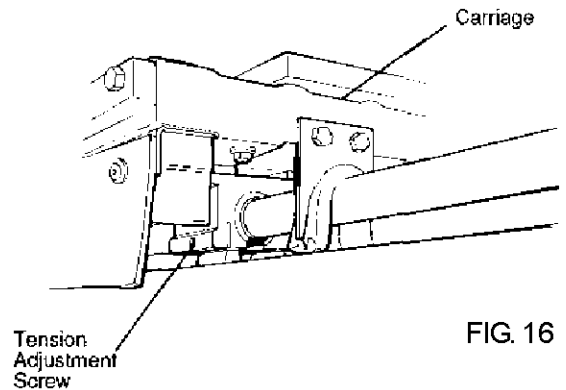
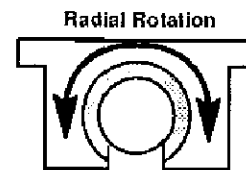

FIG. 16
FIG. 17
4. Adjust the tension screw (FIG. 16) on the side of each bearing block so that when you radially rotate the pillow block around the carriage (See FIG. 17) rail there is no free play between the bearing and rail. You should feel a strong drag.